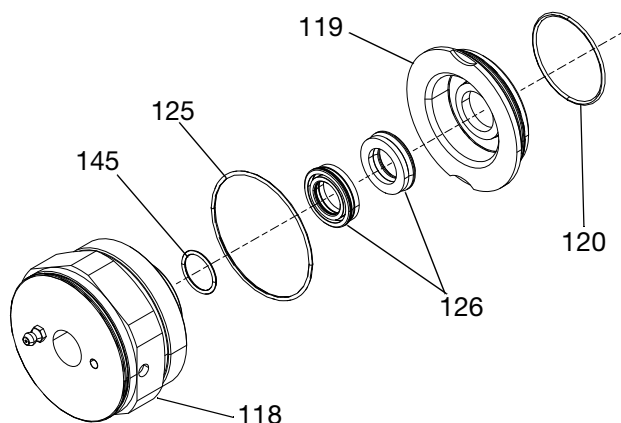

FIG. 26
- Apply grease to the o-ring (145) and the two throat seals (126). Install the o-ring (145) into the upper most groove of the throat cartridge (118). slide O-ring (125) over the boss end of the throat cartridge (118). Place first throat seal into the throat cartridge and ensure the first throat seal spring faces towards the bottom of the throat cartridge. Using a suitable size socket or dowel, press the throat seal to the bottom of the throat cartridge
- Place the second throat seal (126) into the throat cartridge (118) ensuring the spring side faces up toward the throat retainer (119). Using a suitable size socket or dowel, press the second throat seal into the throat cartridge until it contacts the first throat seal. See FIG. 26.